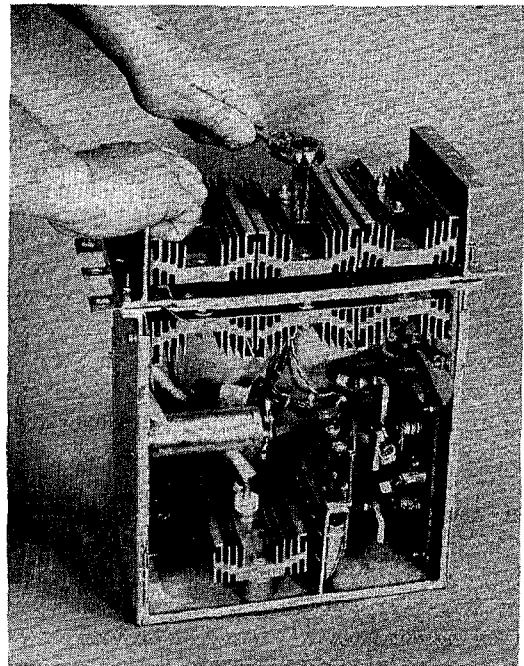

FIGURE 15
6. Remove the bolt, two flat washers and nut that hold the heatsink associated with the defective SCR cell to the DC bus (P1 or N1). See Figure 15.